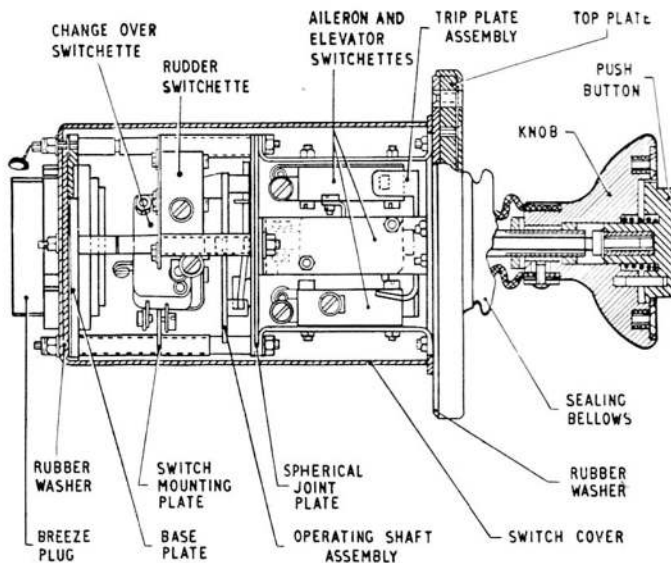
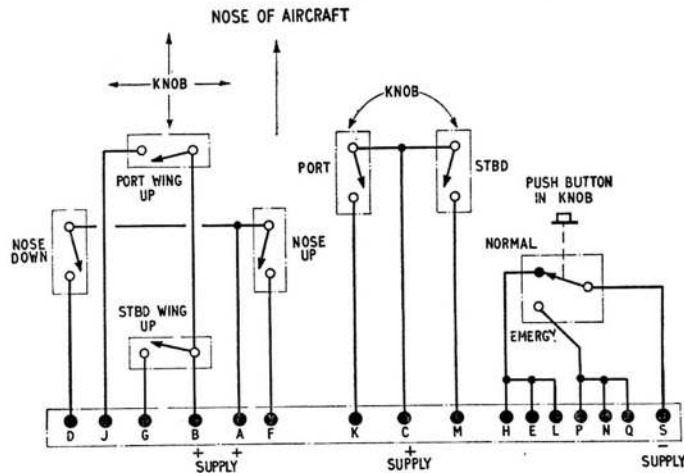

Fig. 2. Sectional view of switch
Fig. 3. Wiring diagram
2. The trim switch (*fig. 2*) is operated by a hand control knob fastened to a shaft which carries a spherical joint on its end. The shaft carries a trip plate assembly on the inner side of the top plate, and the trip plate is so shaped that operation of the control knob to the right, left, up or down closes the appropriate micro switchette, so giving a supply to the appropriate field of the relevant trimming actuator. It will be noted from the wiring diagram in *fig. 3* that this switch differs from others with the same function in the operation of the aileron and elevator switchettes, in that movement of the knob in a certain direction has the effect of operating the switchette 90 deg. anti-clockwise from that direction, and not the switchette situated physically at that position.
6. The internal wiring of the switch is brought out to an 18-pole Mk. 4 miniature plug on the end of the switch. A wiring diagram is given in *fig. 3*. To gain access to the inside of the switch, remove the seal, nuts and washers from the end studs, and draw the cover away from the switch.